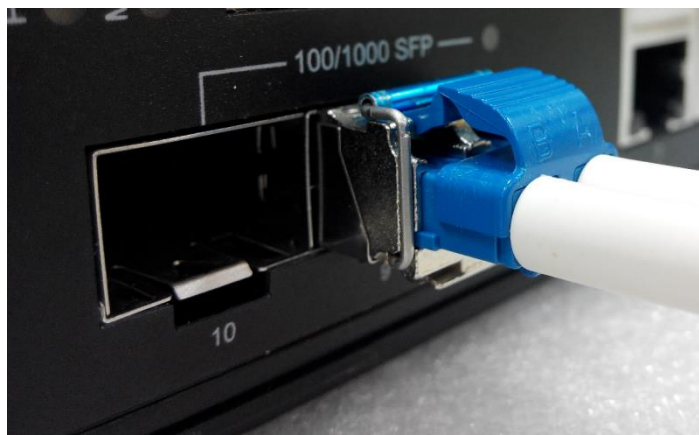

Figure 2.11: LC Connector to the Transceiver
Step 2. Insert the fiber cable of the LC connector into the transceiver as shown below in Figure 2.11.